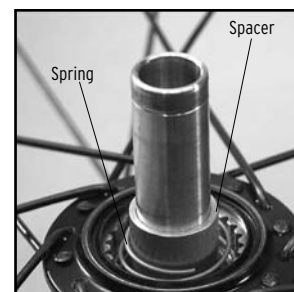

Fig. 14I
2. Push the spacer over the axle (Fig. 14I) until it butts against the bearing.
3. Insert the spring, with the large diameter in contact with the bearing (Fig. 14I).